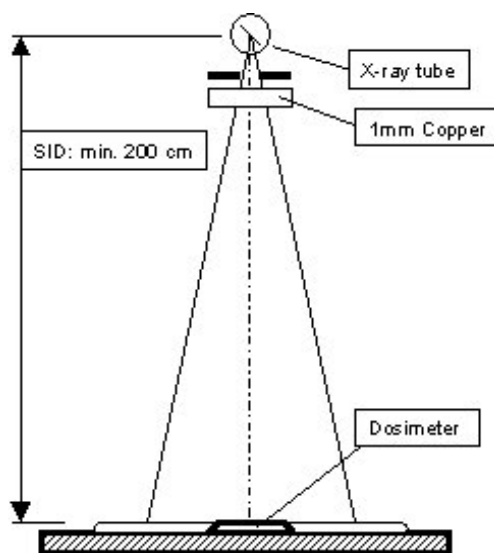

Figure 29: Calibration Setup
5. The set-up scheme is shown in Figure 29.